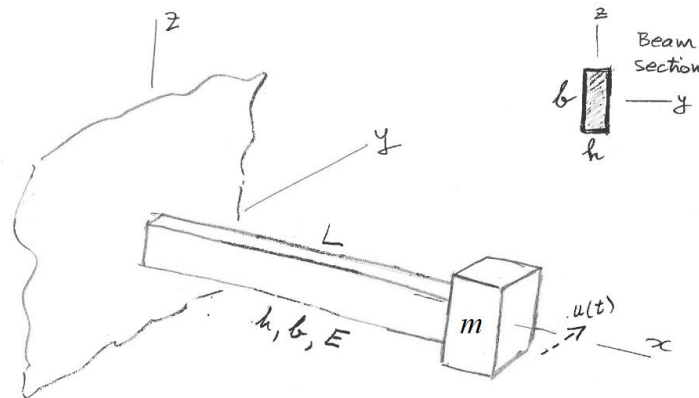

Figure 13: horizontal flex-beam vibrating system
Consider a cantilever beam of length L with a mass m attached at its tip as shown in Figure 13. The beam cross-section properties are E , h , b . Do the following:
- (1) Assume vibration with horizontal time-varying displacement $u(t)$ as shown in Figure 13
- (2) Calculate the cross-sectional stiffness EI of the beam for flexural deformation consistent with $u(t)$
- (3) Calculate the flex-beam spring constant k
- (4) Draw free-body diagram (FBD) including all the forces acting on the mass m
- (5) Deduce equation of motion (EOM)
- (6) Compare the EOM deduced here with the EOM derived in Problem B.1
- (7) Solve the initial value problem (IVP) and find the response for simultaneous application of both initial displacement u_0 and initial velocity $\dot{u}_0$